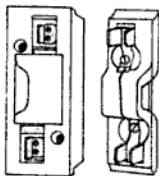

Fig. 5.22 Re-wirable fuses
**Rewirable Fuse** These fuses are also known as semi-enclosed fuses or kit-kat fuses and are used in domestic installation. In these types of fuses, the fuse wire is neither totally enclosed nor is it kept in free air. Figure 5.22 (a) shows a semi-enclosed fuse. In these types of
- (i) D-type cartridge fuse [Fig. 5.22 (b)], and